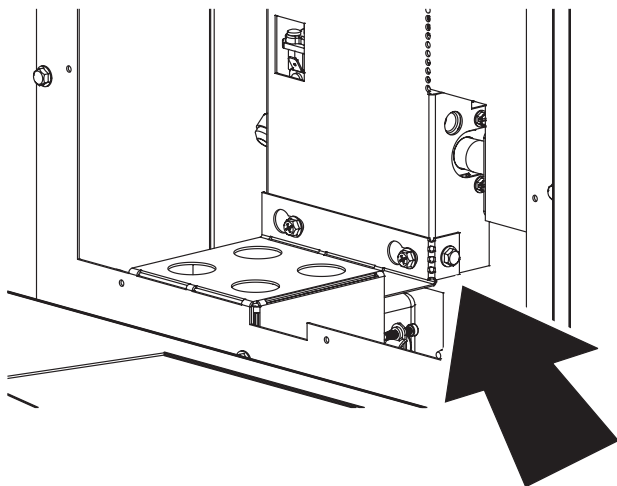

Figure 87
**NOTE:** If it is necessary to remove one of the gas valve train components, break free the plumbing fittings and remove the screw indicated in **Figure 87.**